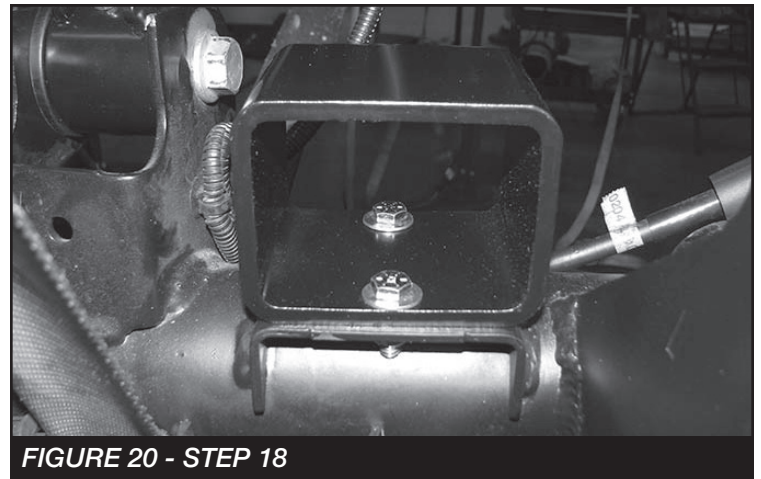

FIGURE 20 - STEP 18
18. Locate FT50401BK Rear Bumpstop Spacer. Position the spacer onto the factory bumpstop pad on the axle and attach with the supplied 5/16" x 1" bolts and hardware. **SEE FIGURE 20**